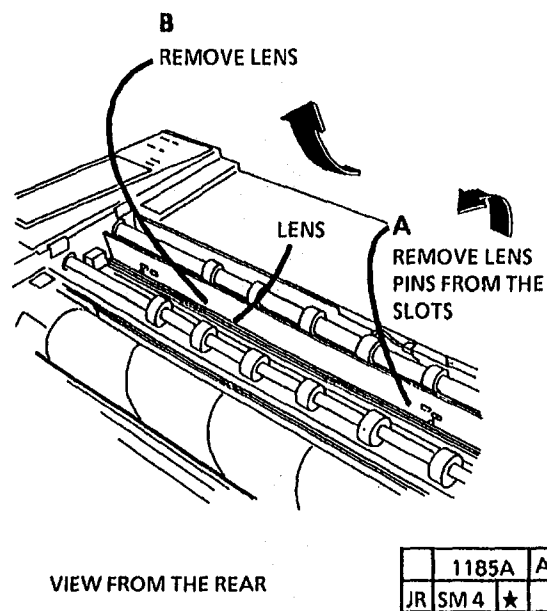

Figure 1. Removing the Lens
5. (Figure 1): Remove the lens.